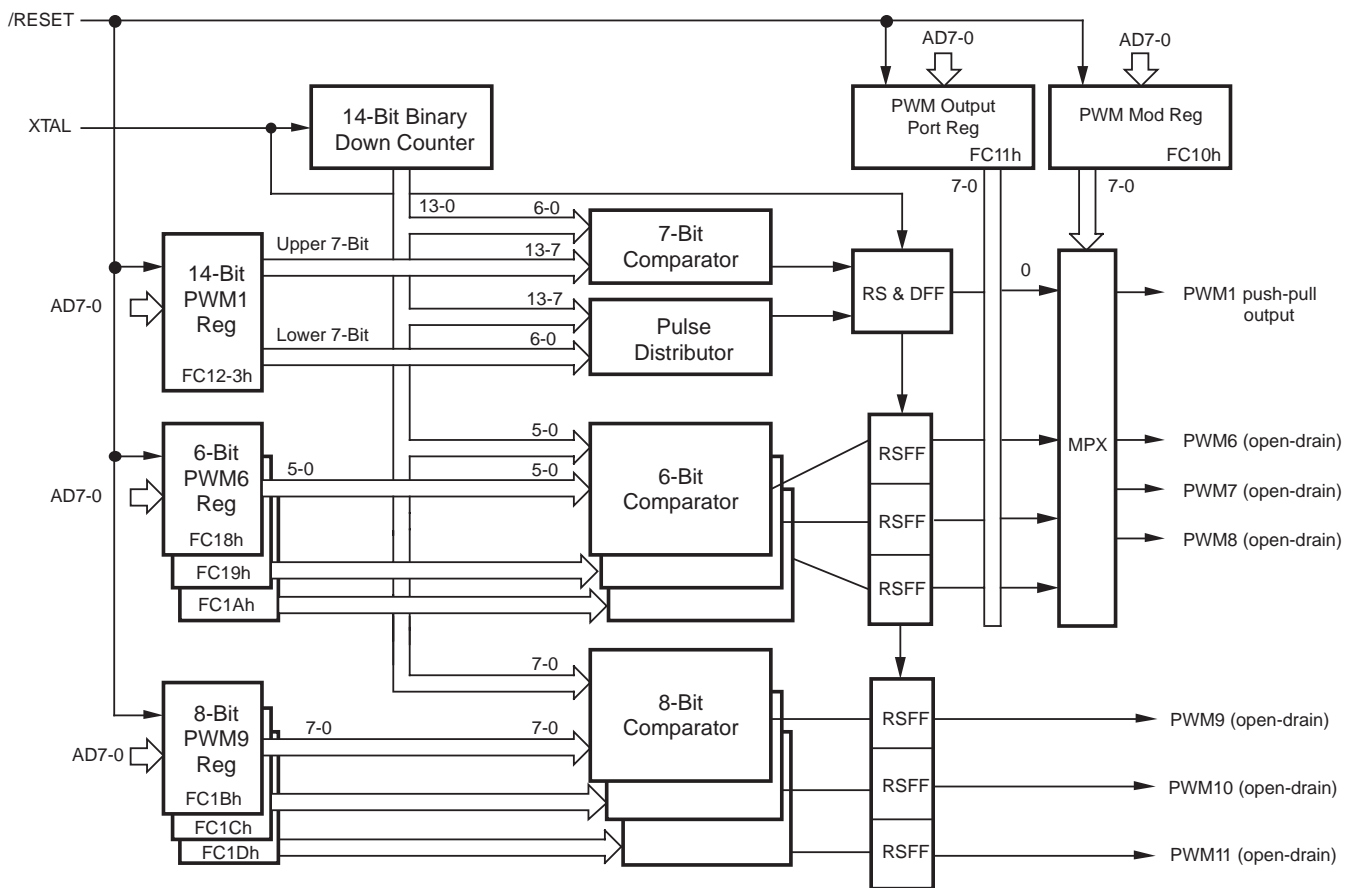

Figure 9. Pulse Width Modulator Block Diagram
**Pulse Width Modulator (PWM).** The has seven PWM channels (Figure 9). There are three types of PWM circuits: PWM1 (one channel of 14-bit resolution) typically used for Voltage Synthesis Tuning, PWM8-PWM6 (three channels of 6-bit resolution) typically used for audio level control, and PWM9, 10, 11 (three channels of 8-bit resolution) typically used for picture level control. The PWM control registers are mapped into external memory and are accessed through LDE and LDEI instructions.